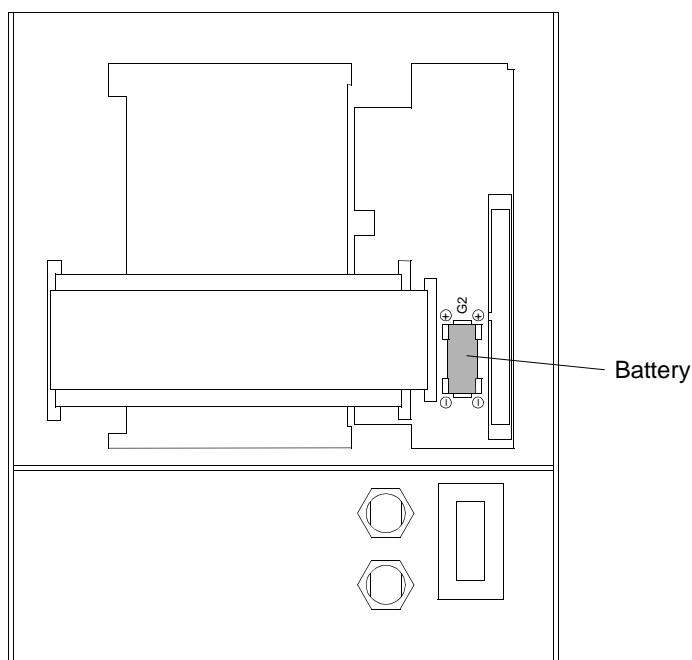

Figure 9-2 Rear side of front panel (housing size $1\frac{1}{2}$) with separate operator control battery
- ☐ Plug the battery into the snap connection according to Figure 9-2.